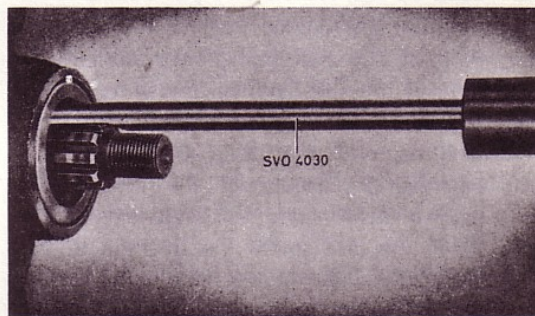
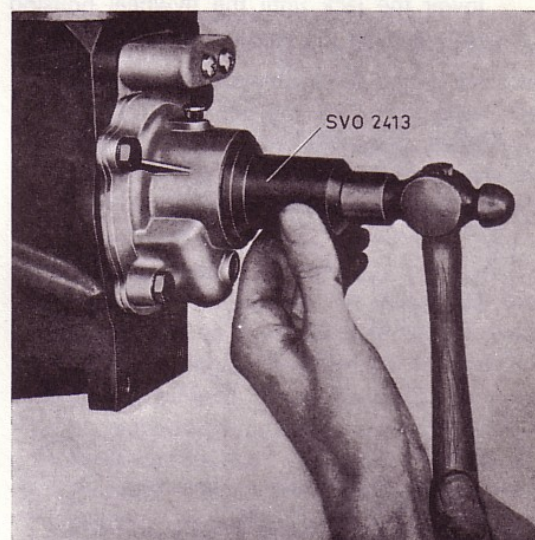

Fig. 14. Removing sealing ring
Fig. 15. Fitting sealing ring
3. Pull out the old sealing ring with puller SVO 4030, see Fig. 14. Fit the new sealing ring with the help of sleeve SVO 2413, see Fig. 15.